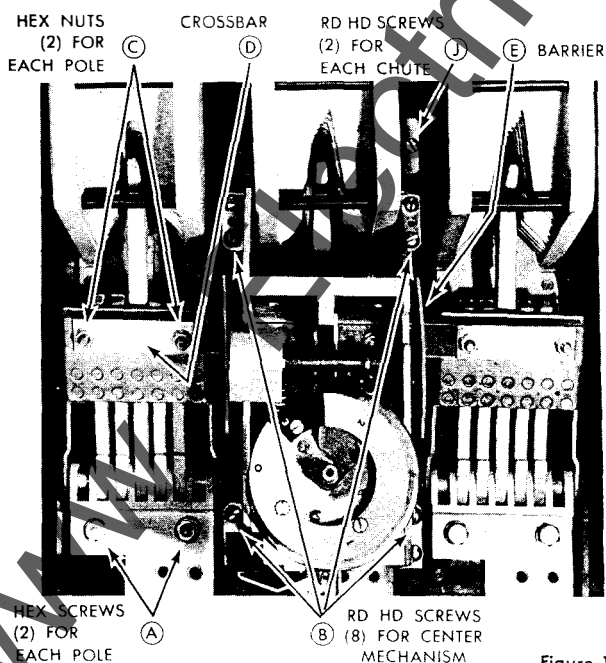

Figure 1
REMOVING CONTACT ARM ASSEMBLIES, Figure 1.
- 18) Remove Round Head Screws (J) Figure 1, and retaining plates. Arc chute may now be lifted out.